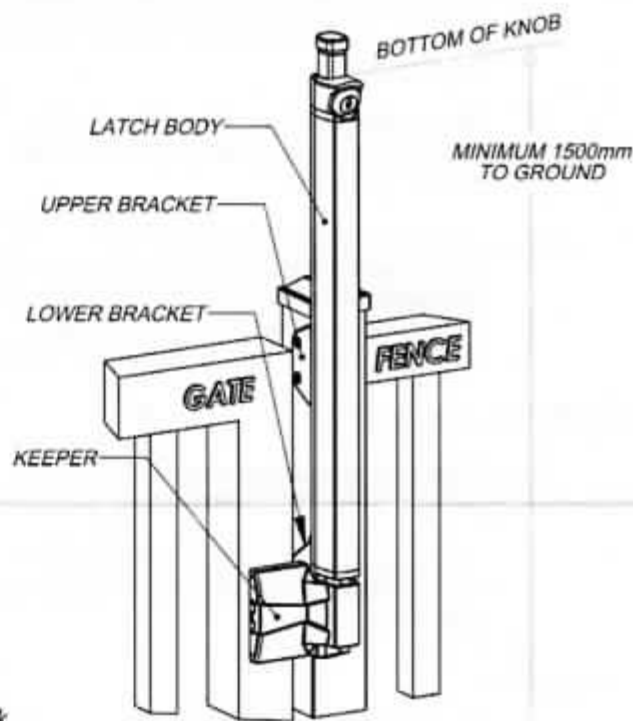

FIG. 1
1. Slide the Latch Body down over the Upper Bracket (Fig. 3). Use a measuring device to locate the Top of the Latch at the PROPER HEIGHT (Fig. 1) "REFER TO ALL LOCAL BUILDING CODES"